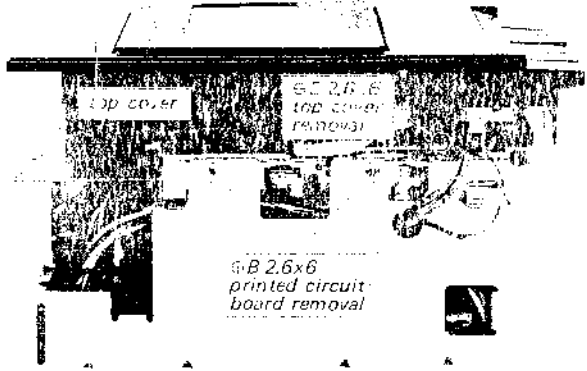

Fig. 2-7. Top cover removal
3. Remove the screw (#B 2.6x6) securing the top cover to the chassis as shown in Fig. 2-7.
3. Remove the two screws ( $\oplus$  B 2.6x6) as shown in Fig. 2-7. This frees the mechanism as shown in Fig. 2-9.